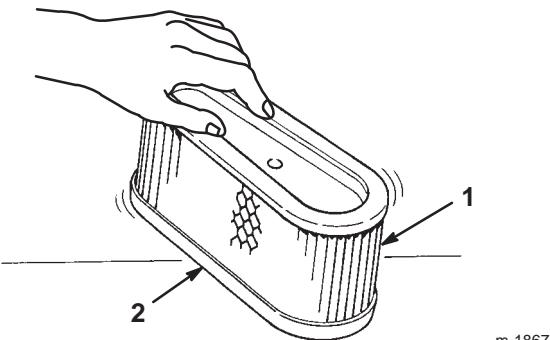

Figure 24
A. Lightly tap the element on a flat surface to remove dust and dirt (Fig. 24).